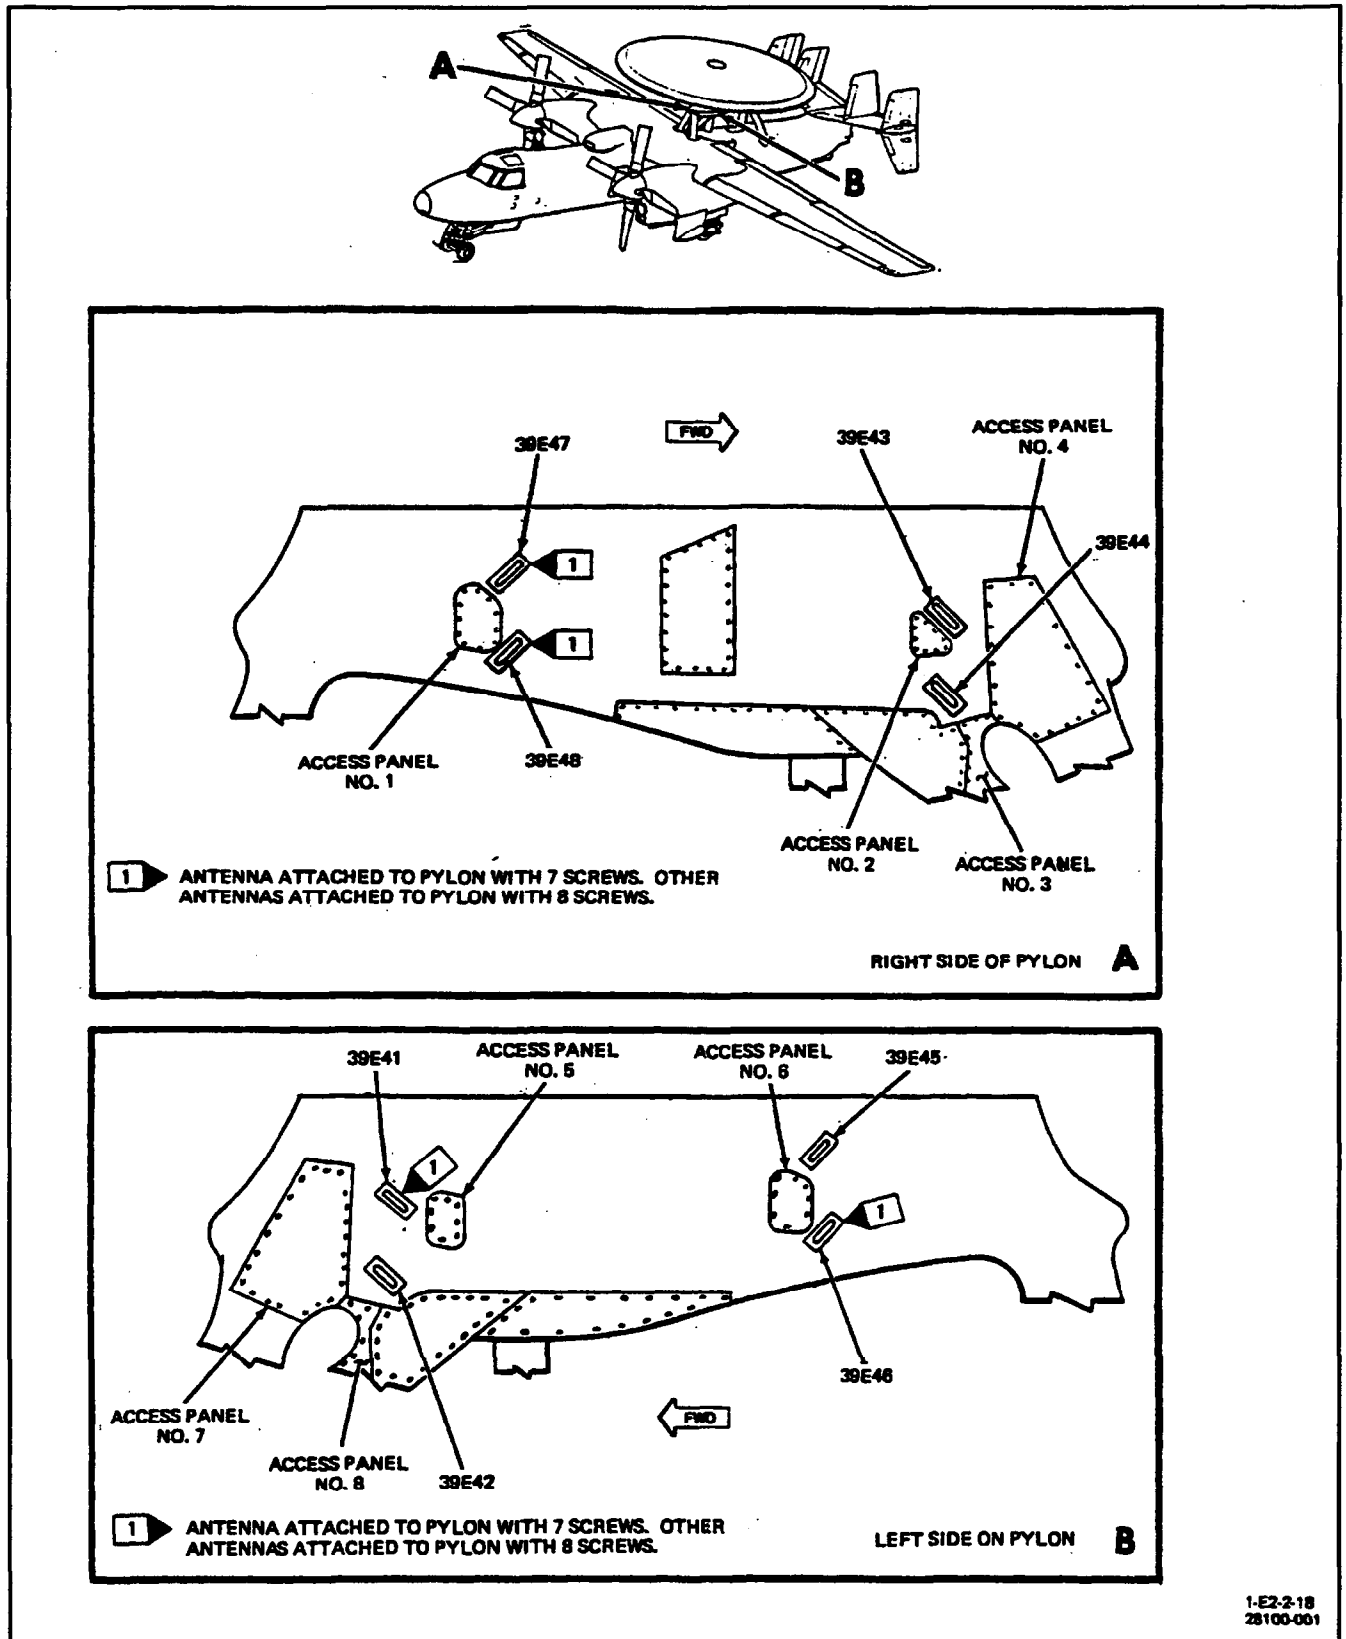

Figure 1. Removal and Installation of Half-Loop Antenna Assembly (Radar Set AN/APS-125 Configuration)
5. **INSTALLATION.** (See figures 1 and 2.)